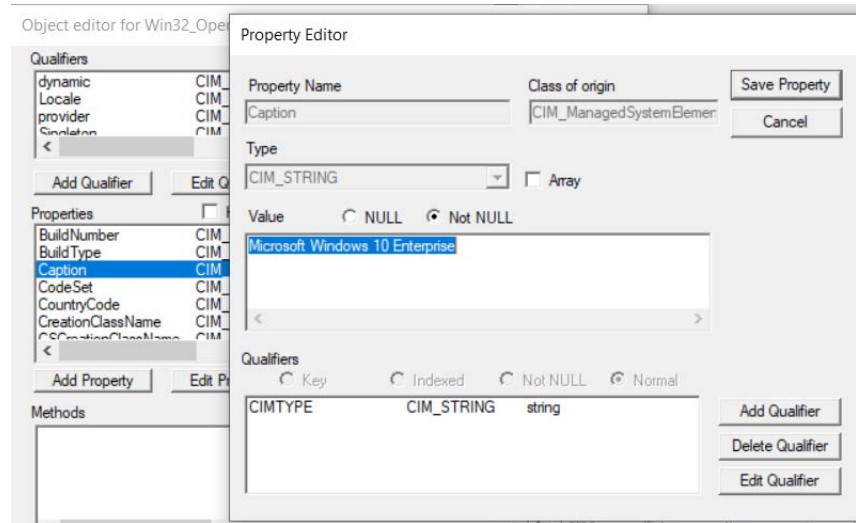

Figure 266. WMI query - OS caption
8. Double click on the object **Win32_OperatingSystem=@**. Properties of this object will be listed as shown in Figure 266. For example, the property 'Caption' has a value 'Microsoft Windows 10 Enterprise'. The WMI query for this property is successful.